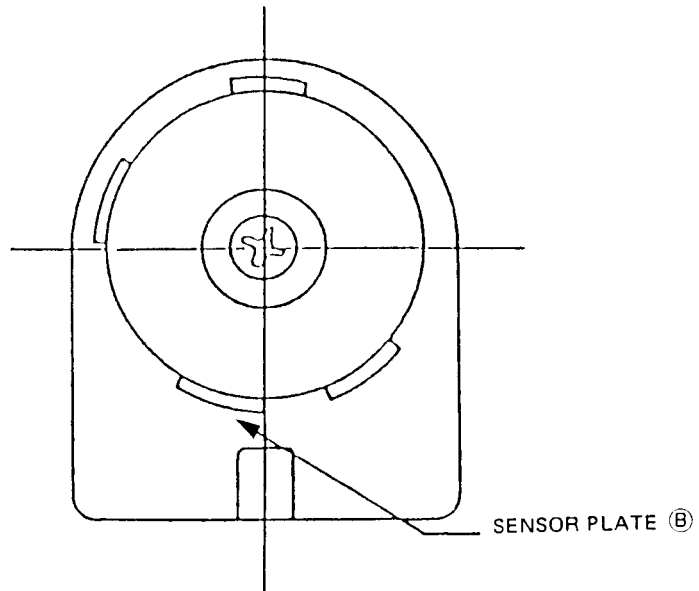

Fig. 58
3. The trimmer solenoid is energized when the sensor plate B reaches a point shown in Fig. 58.